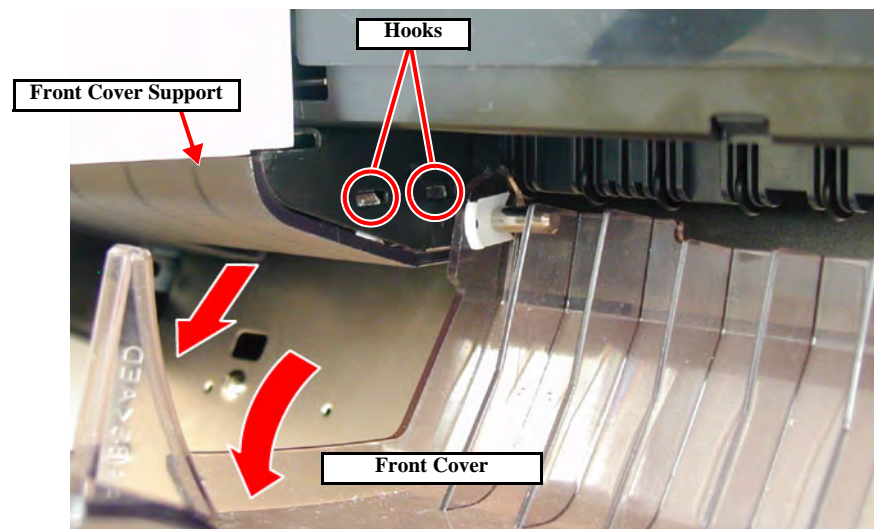

Figure 4-22. Front Cover Support Removal
2. Push in the two hooks to the left of the cover and remove the Front Cover Support. (See Figure 4-22)